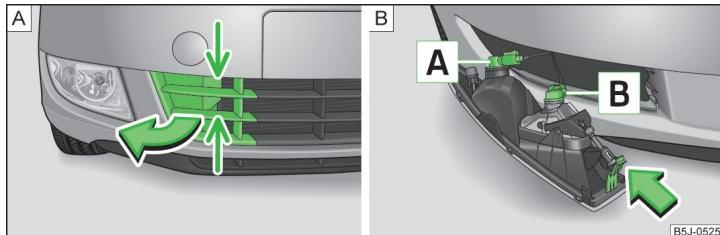

Fig. 158 Front bumper: Protective grille/removing the fog light
Bulb location » Fig. 158.
- Grasp the protective grille in the areas marked by the arrows » Fig. 158 - **A** and remove the cover in the direction of the arrow.
- Insert your hand into the opening in the protective grille and press the catch » Fig. 158 - **B** in the direction of the arrow.